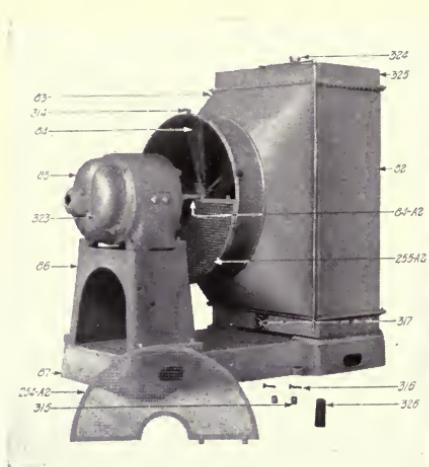

Fig. 39.
**47d. Radiator (not including motor).** (See Fig. 39.)
**47d. Radiator (not including motor).** (See Fig. 39.)—Contd.